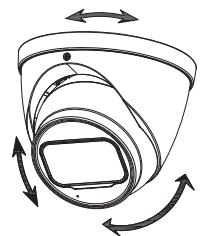

Figure 3-4
- For model B and model C, put the enclosure ⑥ back on and adjust the locking screw ⑧ to hold it, leave some spaces enough for you to adjust the device ⑤. Aim the lens to the ideal angle and adjust the focus until you get clear image (see Figure 3-4) and fasten the locking screw ⑧.